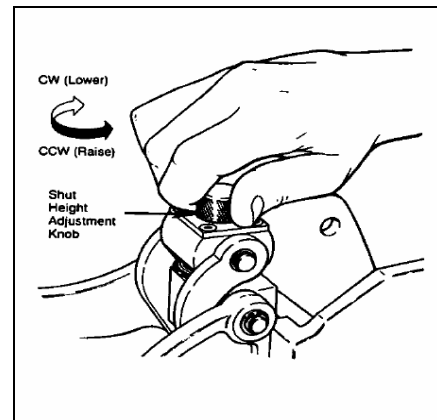

Figure 3
2. Lower the handle of the press until the handle casting makes contact with the press casting. (See Figure 3)
4. Rotate the shut height to lower or raise adjustment feature until the bottom of the shaft contacts the desired position on the shut height gauge. (See Figure 3)